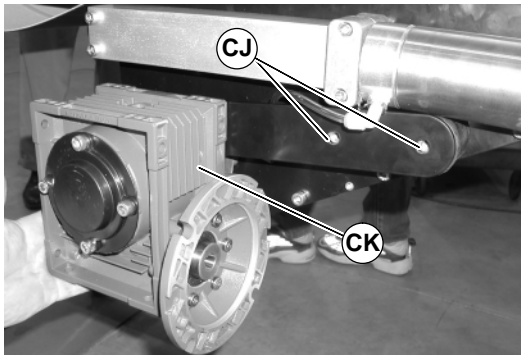
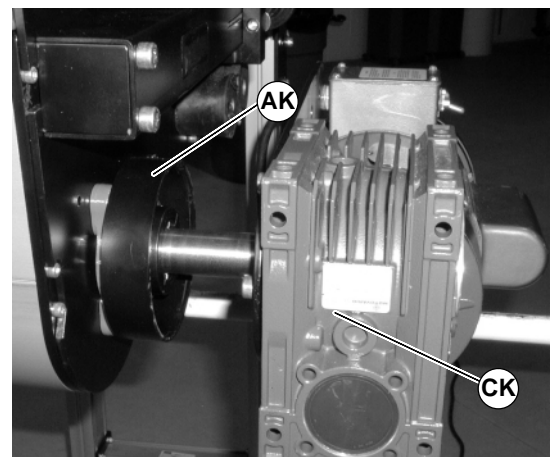

Figure 84
Figure 88
2. Remove screws (CJ of Figure 84) and remove gearmotor (CK) (NOTE: Gearhead shown with motor removed for clarity, motor can remain attached to gearhead).
9. Reinstall spacer ring (AK of Figure 88) and gearmotor (CK). Tighten screws (CJ of Figure 84) to 150 in-lbs (17 N-m).